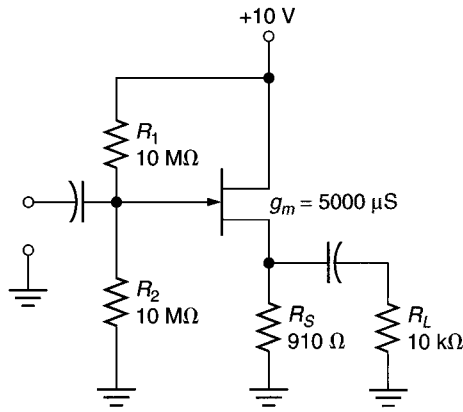

FIGURE 12.67
40. Determine the values of  $A_v$ ,  $Z_{in}$ , and  $Z_{out}$  for the amplifier in Figure 12.67.